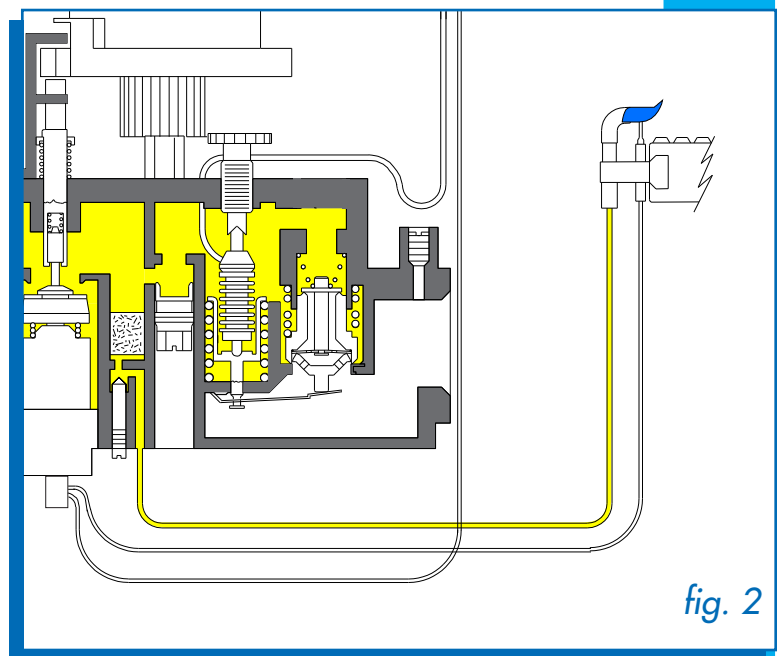

fig. 2
As the water temperature increases, the bellows expands and acts on the gas valve seat (D) by means of a lever mechanism. When the temperature approaches the requested value, the system closes sharply, thanks to a specially designed functional discontinuity, and turns off the main burner (fig. 2).